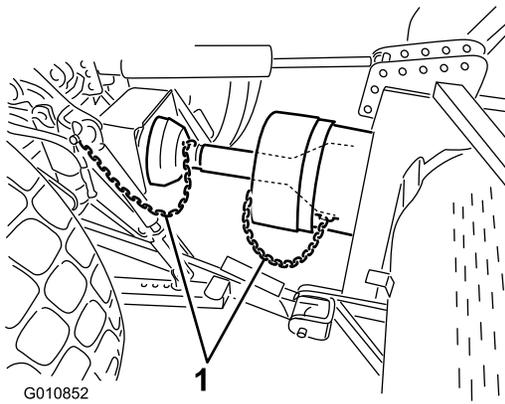

Figure 21
6. Connect the shield safety chains to the PTO shield and the tractor bracket (Figure 21). Make sure the chains remain slack when the aerator is raised or lowered.